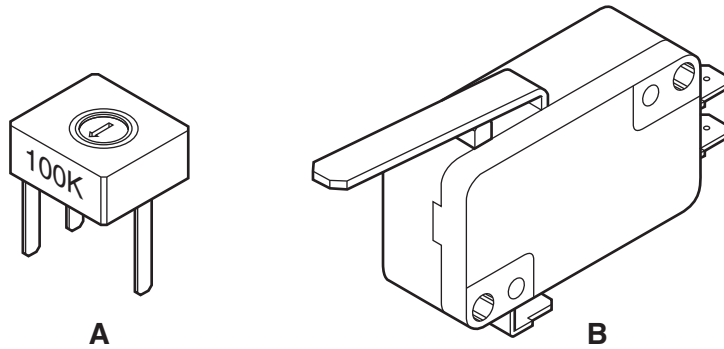

Fig. 8
- 3 (a) Two components are shown in Fig. 8.